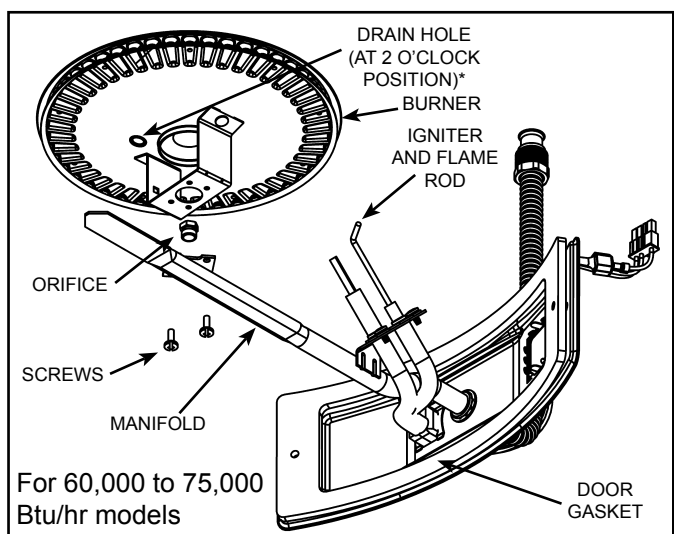

Figure 19
1. Align the screw holes on the inner door/manifold assembly. Using the two screws removed in step 1 of Removing Burner, install the new burner to the inner door/ manifold assembly (rotate the assembly to visually check the top portion of the burner assembly and confirm the orientation of the condensation drain hole (see Figure 19 and note).